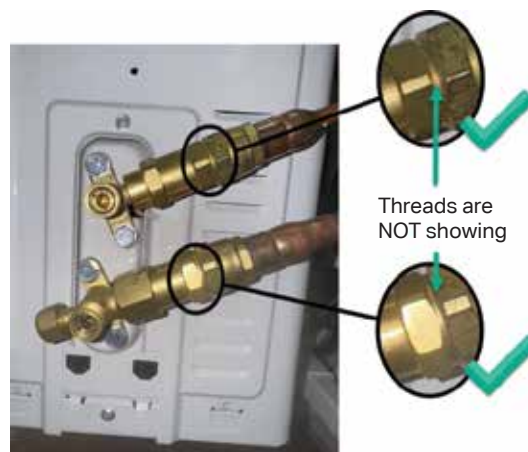

FIG 6.1
5. Now, connect the line set to the condenser. Tighten the bottom male condenser coupler first and then the top male condenser coupler using an open-ended wrench. (see figure 6.1)